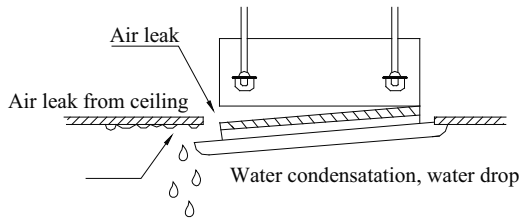

Fig. 69 - Improper Screwing
- (1.) Improper screwing of the screws may cause issues as shown in Fig. 69.